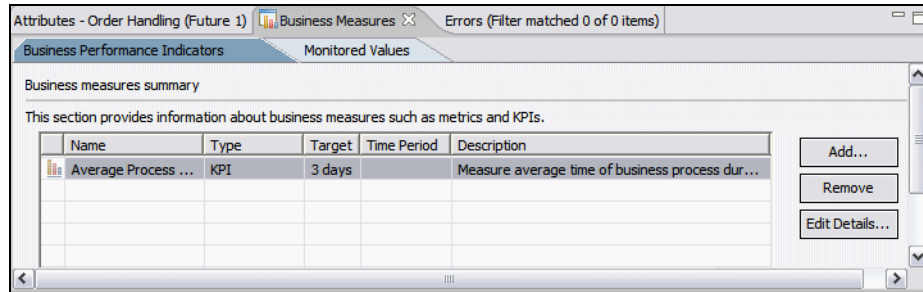

Figure 9-13 KPI is added
- Click *OK* and the KPI is created (Figure 9-13).